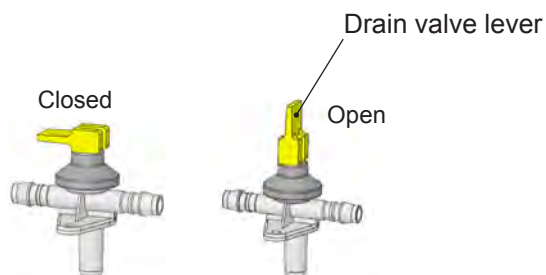

Figure 5. Safety/drain valve
3. Open the safety/drain valve by turning the lever (see figure 5). Check your RV owner's manual to find the location of the safety/drain valve.